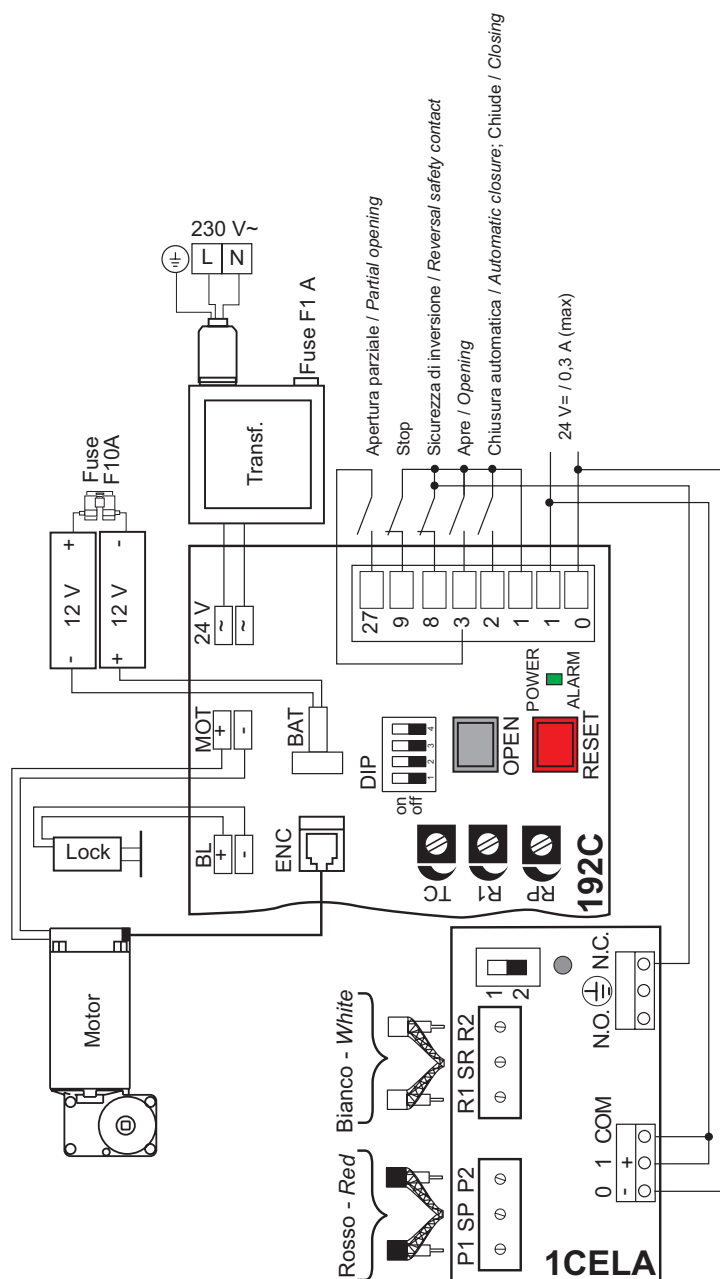

Fig. 2
- For the 192C electronic board version only, connect the 1CELA photocell amplifier to the electronic board (fig. 2).
Wire up as shown in fig. 2, close the contacts 1-8, 1-9.